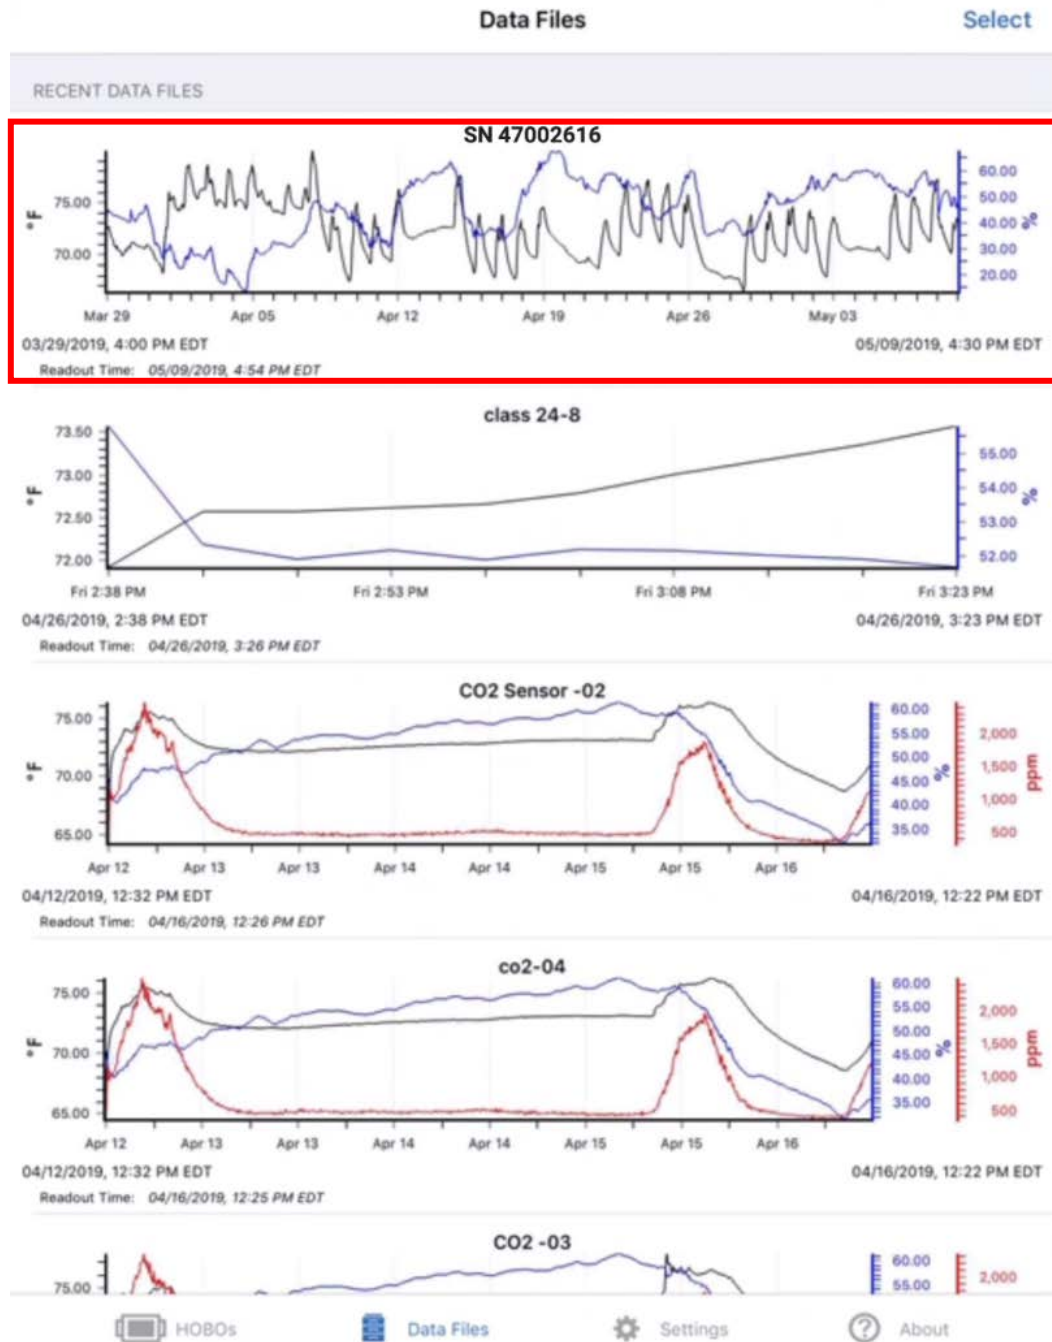
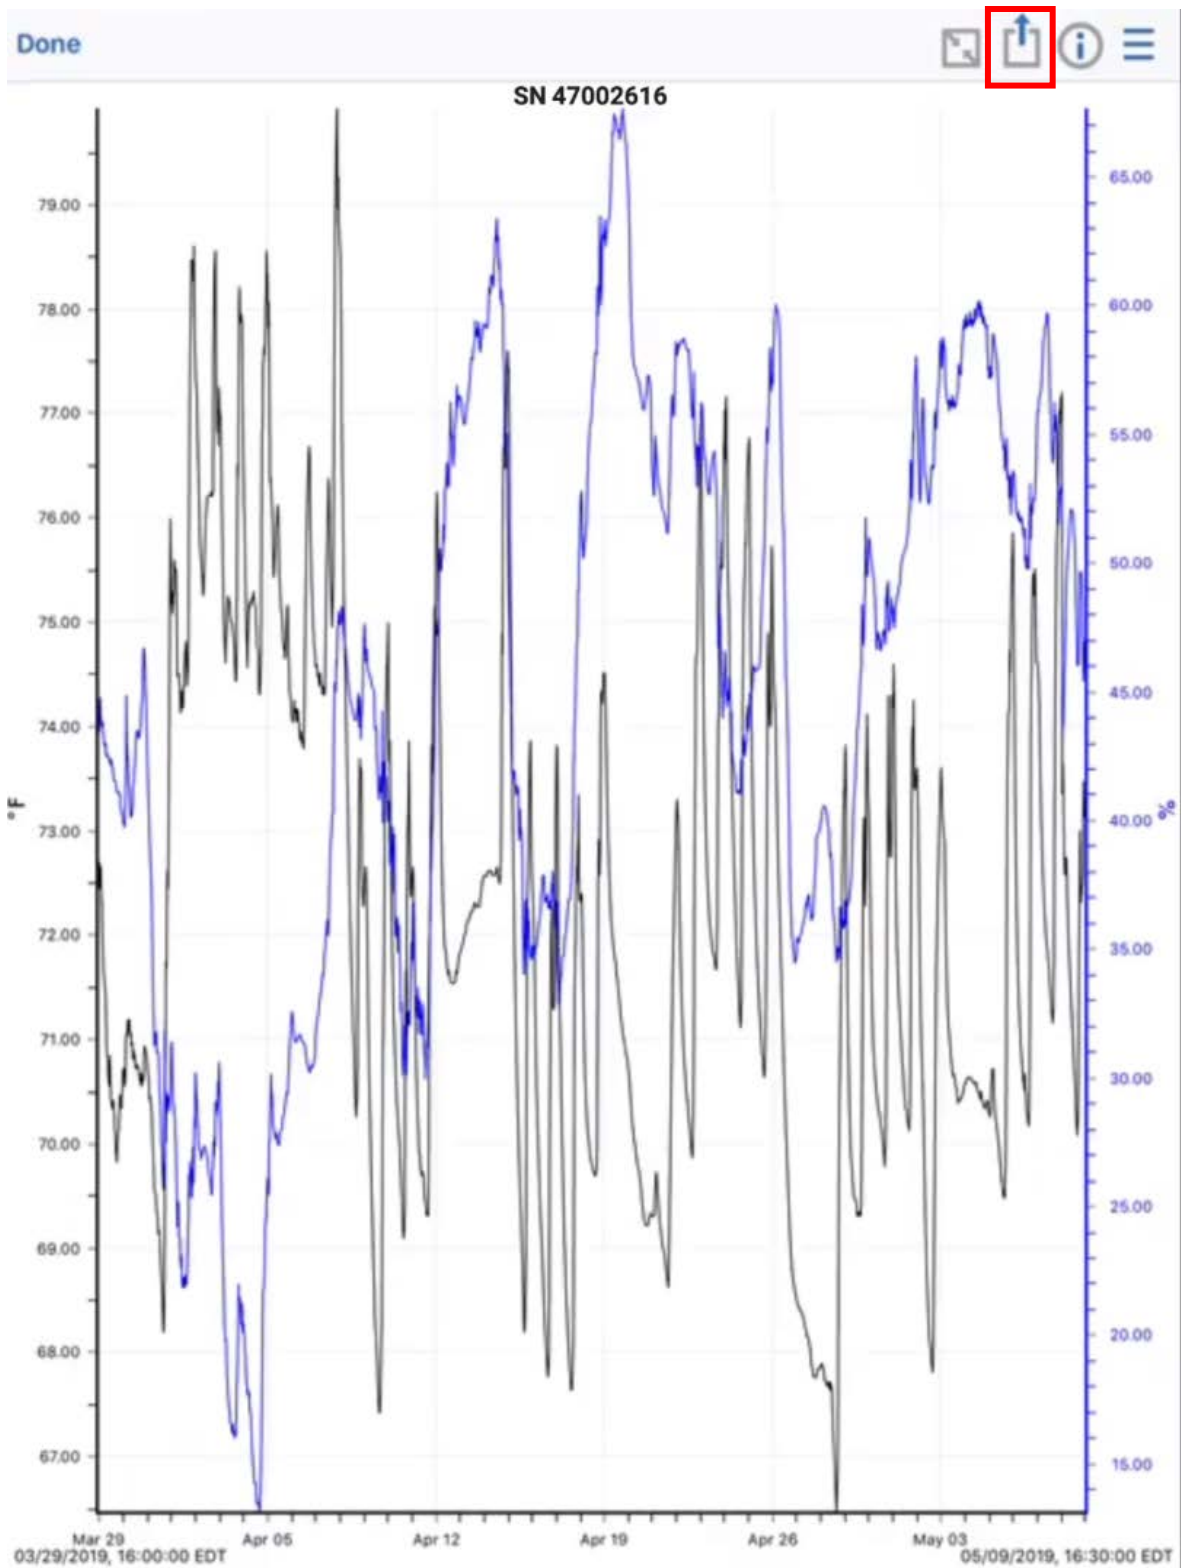

Figure A.6.20: The “Data Files” screen.
Figure A.6.21: The larger graph.
4. At the “Data Files” screen as shown on Figure A.6.20, tap on the graph that has the name that you set at step 2.a of section A.6.2. For this guide, the name was left as the default name of the MX1101 Data Logger, which is boxed in on Figure A.6.20. Tapping on the small graph will bring you to the larger graph as shown on Figure A.6.21.
5. On the larger graph as shown on Figure A.6.21, you can closely inspect the data by zooming in and out with your fingers, or turning the device to landscape mode if currently in portrait mode.
6. Tap on the “Share” icon, which is boxed in on the top right of Figure A.6.21. This will take you to the “Share” screen.